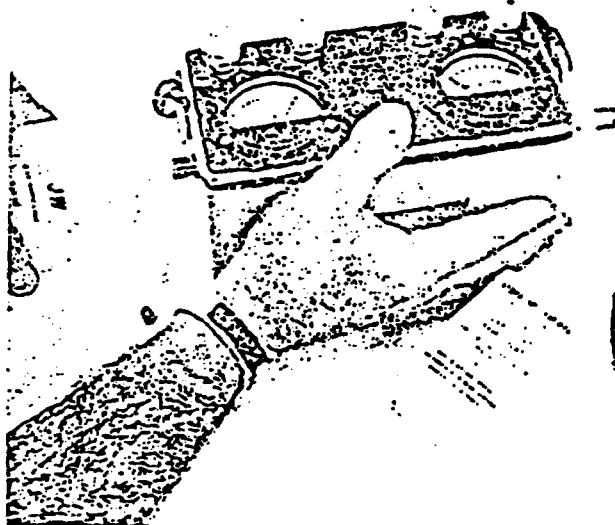

Figure 12 Inserting 1.1% methane gas sample into sample inlet.
7.1 Checking Combustibles Calibration Using Known Gas Sample (See Figure 12)